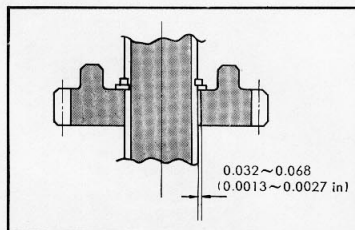

Figure 3-82. Clearance between counter shaft and counter shaft third gear
- (8) Clearance between countershaft and countershaft third gear (Fig. 3-82)